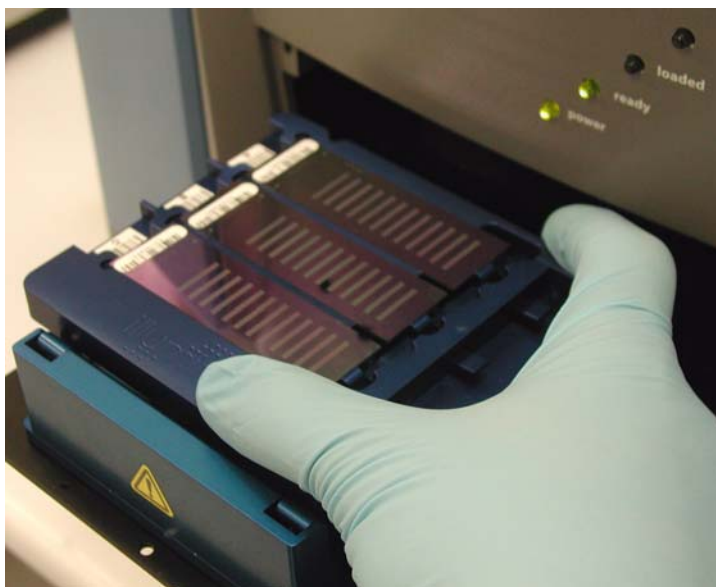

Figure 49 Place BeadChips into Illumina BeadArray Reader Tray
8. Make sure that the BeadChips are properly seated in the BeadArray Reader tray (Figure 49).